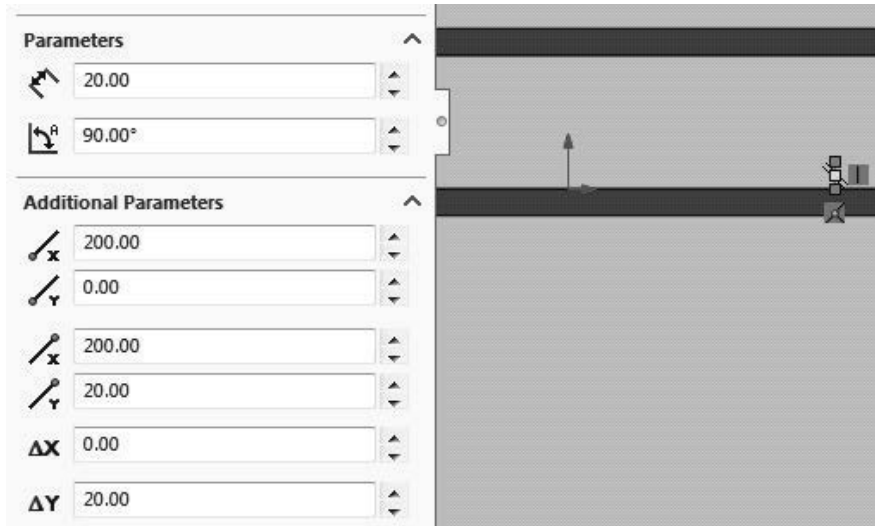

Figure 2.7 Parameters for vertical line
7. Draw a vertical line in the positive Y-direction in the front plane starting at the lower inner surface of the sketch. Set the **Parameters** and **Additional Parameters** to the values shown in figure 2.7. Close the **Line Properties** dialog ☒ and the **Insert Line** dialog.